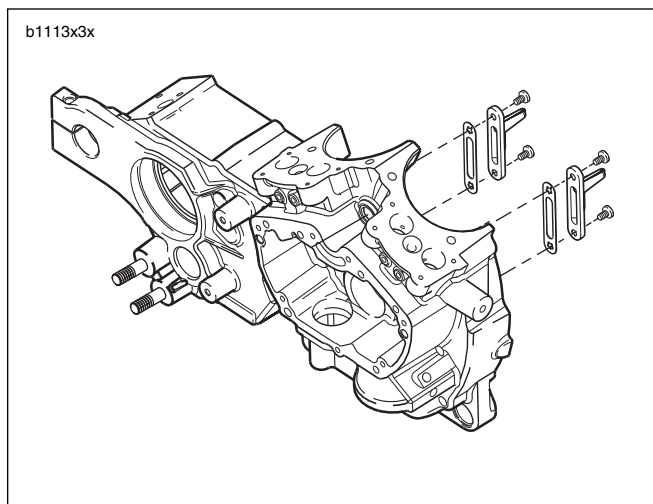

Figure 3-135. Piston Oil Jet Assemblies
1. See Figure 3-135. Remove two TORX screws from each piston jet assembly to free piston jets from right crankcase.